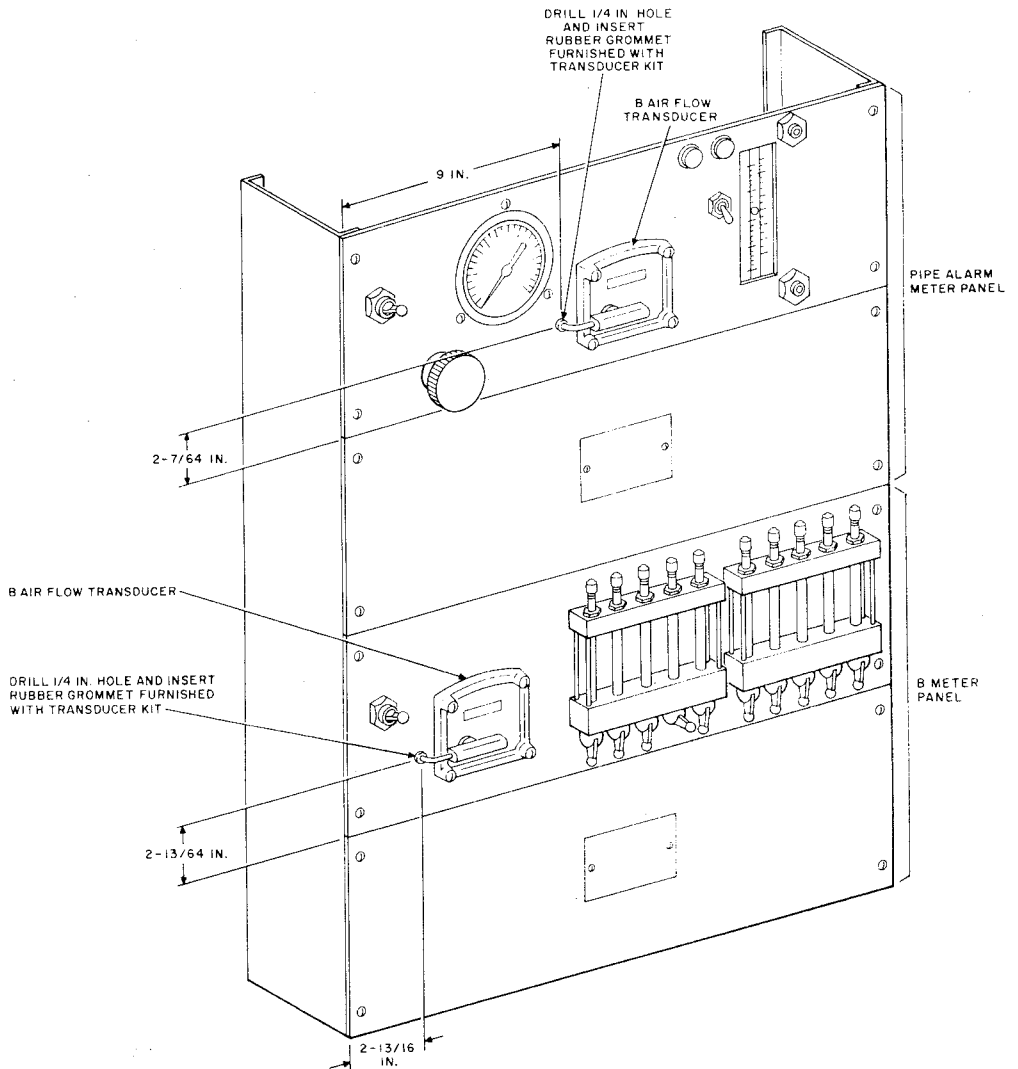

Fig. 2—B Airflow Transducer Installed on Pipe Alarm Meter Panel and B Meter Panel
- (4) Dress the D station wire as shown in Fig. 2. In order to do this, it is necessary to prepare the front panel of both pipe alarm meter panel and B meter panel as illustrated in same figure.